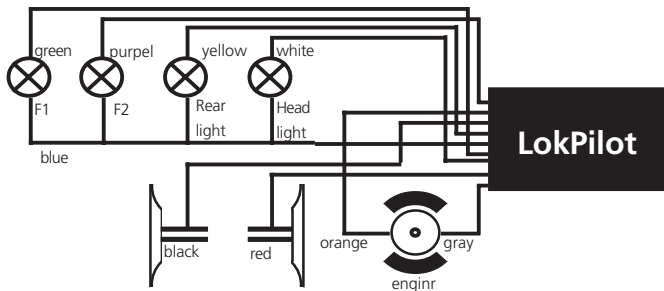

figure 2: Wiring of engines with DC motor and isolated functions
a) If directional headlights and functions are insulated from the locomotive body proceed as per figure 2.
In the case as per fig. 2 you have to connect the second pole of all light bulbs or other loads to the blue wire. The blue wire must not be connected to the chassis!
Only use digital smoke generators (e.g. Seuthe No. 11) for locomotives whose light and function outputs are connected as shown in figure 2. All other smoke generators may draw too much current. Some commercially available smoke generators have a nominal current above 250 mA!